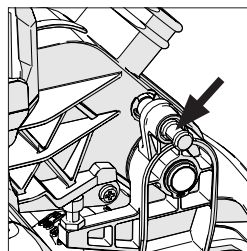

Fig. 15
- Ensure that the cutting head is in the locked down position with the latching pin fully engaged in its socket (see Fig.15).
- Ensure that the cutting head is in the locked down position with the latching pin fully engaged in its socket (**Fig. 15**).
- Pull out the head latching pin (**Fig. 15**) and allow the cutting head to rise to its upper position.